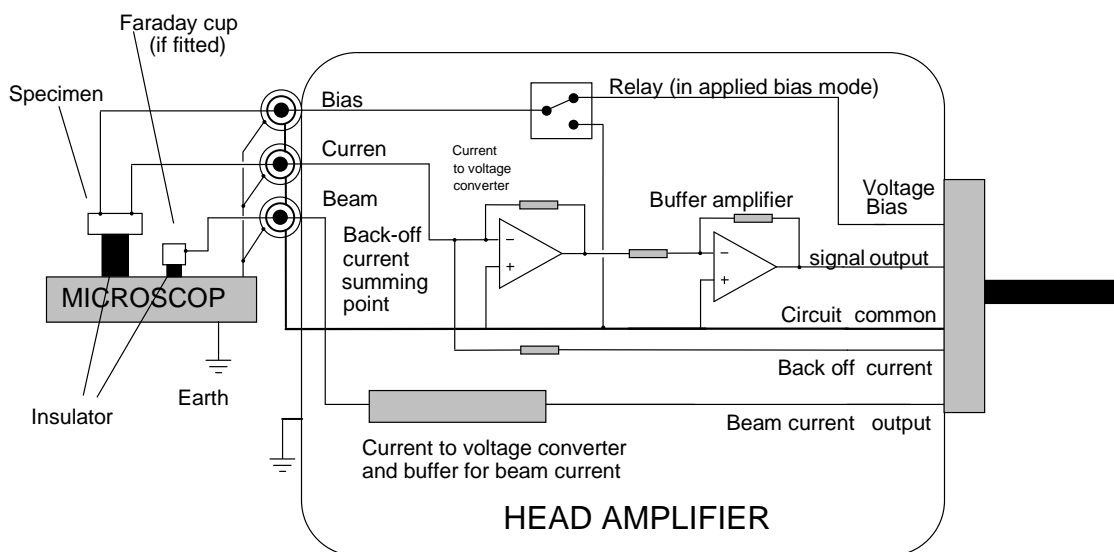

Fig 8. Schematic of the internal electronics of the ICA-2 head amplifier
A schematic of the internal circuitry components of the ICA-2 head amplifier and their relationship with the specimen and microscope is shown below in Fig 8.
1. Ensure that the **BIAS VOLTAGE** and **BACK-OFF CURRENT** facility are switched out, or set to their zero levels. Set the **ANALOGUE OUTPUT GAIN** to unity (1), the **VAR.** control and the **BIAS** should be left at their default “out” positions.
2. Connect up the sample as shown in Fig. 8.